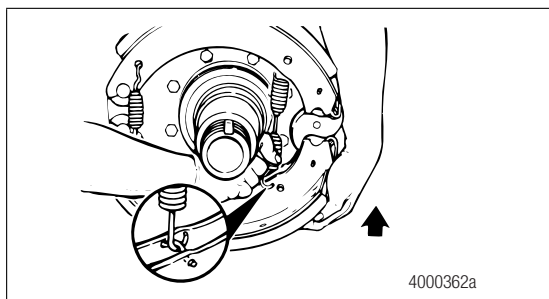

Figure 5.19
- Rotate the lower brake shoe forward. Install a new brake shoe return spring with the open end of the spring hooks toward the camshaft. Figure 5.19.